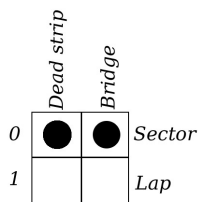

Figure 12: DS bridge sector sensor, dead strip sector sensor.
In order that the *Track Interface* interprets both DS bridge and dead strip as sector sensors, the double switch (5) must be set as shown in figure 12.